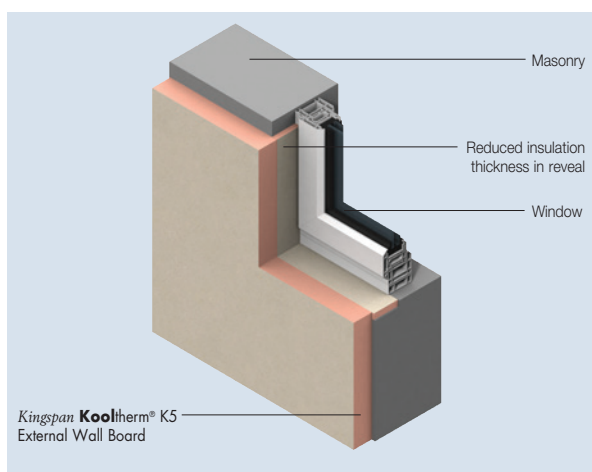

Figure 7
- Reveals should be designed to accommodate the 20 mm of **Kingspan Kooltherm® K5 External Wall Board** required to achieve an R-value of 0.6 m²·K/W, and the depth of the cladding system (see Figure 7).
- Care should be taken to install the specified thickness of insulation around reveals (see Figure 7).